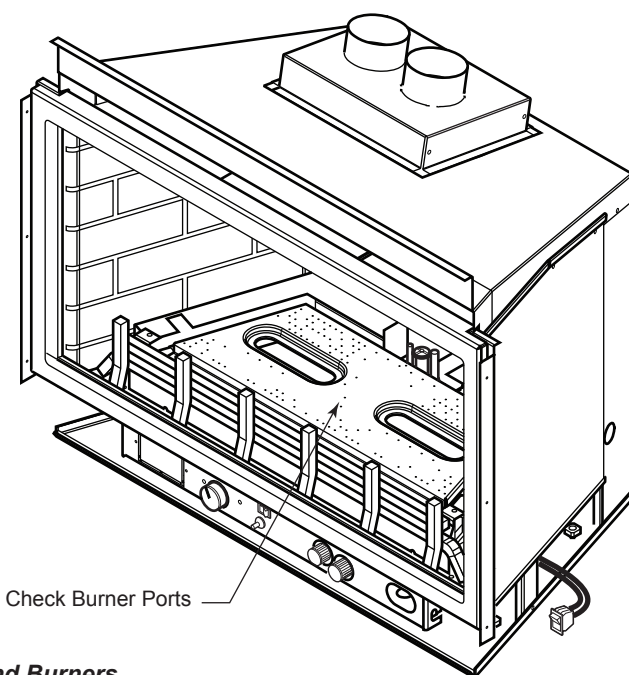

Figure 44 -
4. Clean burner and burner ports. *Figure 44*